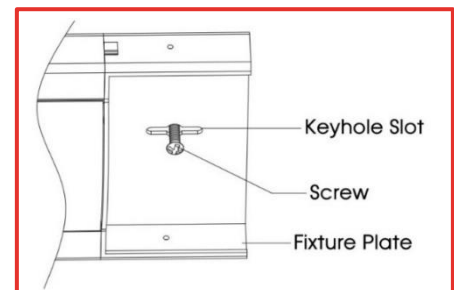

Figure 5: Installed Light with Two Screws
- c. Using a pencil, put a mark in the same side of the keyhole slot on each end (Refer to Figure 5).